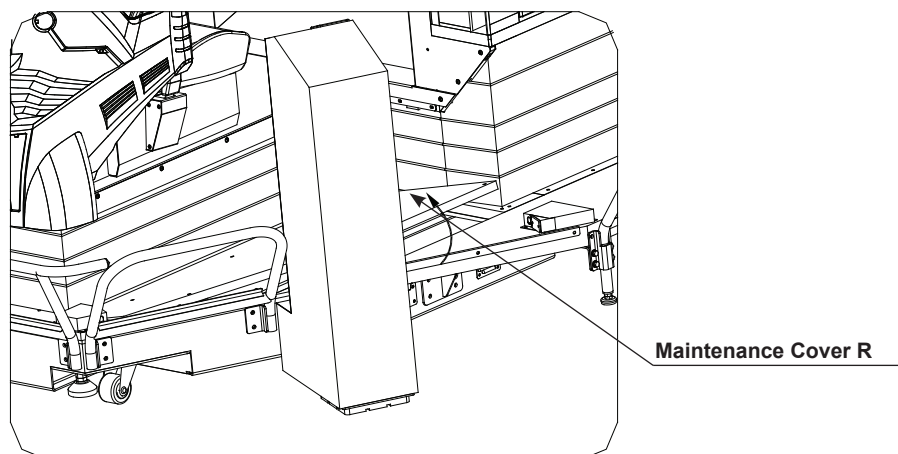

FIG. 21-2b
- 4** Unlock and open Maintenance Cover R as shown in figure 21-2b.